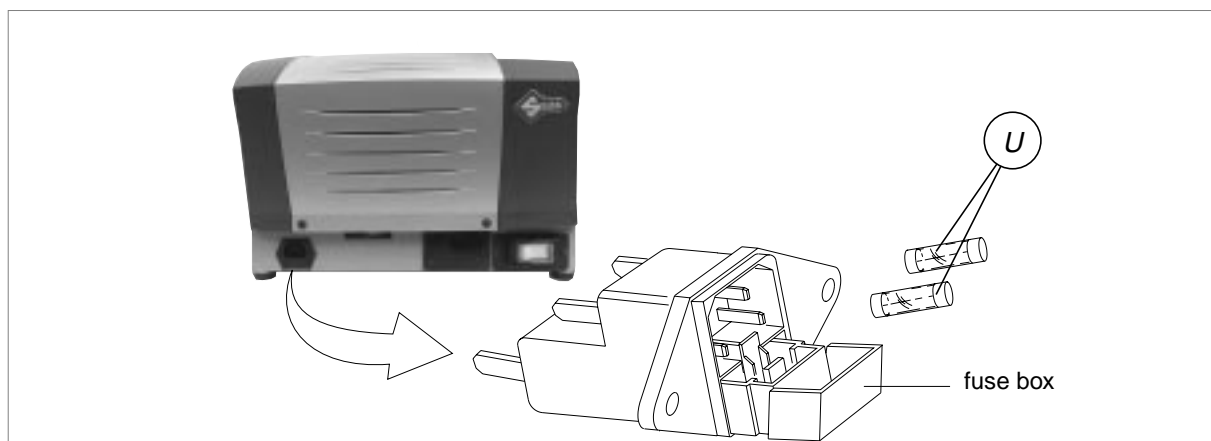

Fig. 24
- 3) Remove the fuses box placed below the key-cutting machine socket (fig.24).
- 4) Replace the fuses (U).